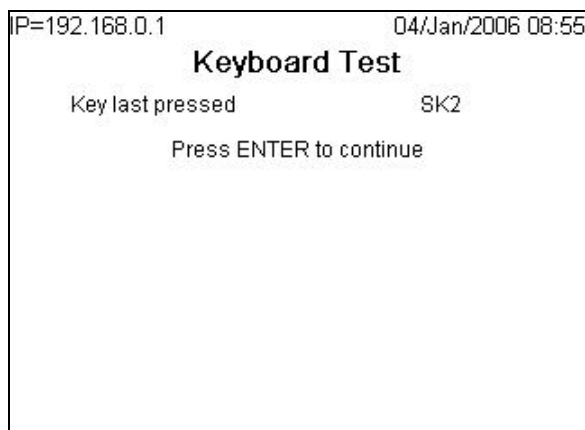

Figure 3-17: Keyboard Test Screen
- Keyboard Test (Figure 3-17)—Enables testing of the keyboard. Each key that is pressed will be shown on the display. When testing is complete, press the EXIT softkey  to return to the menu tree.